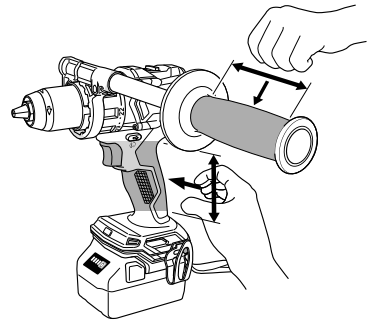

Fig. 1
- 2. During operation, make sure to firmly hold the tool's handle and side handle with both hands. Failure to do so may result in injury. (Fig. 1)**